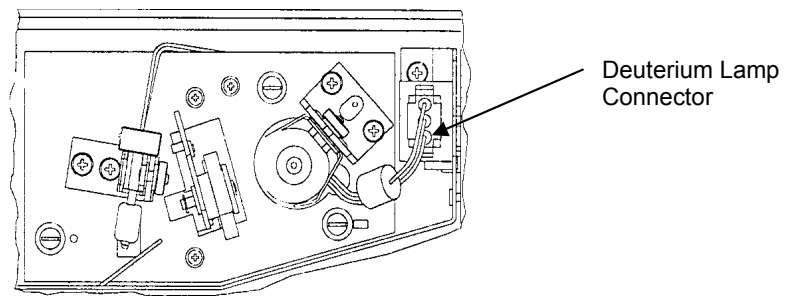

Figure 20 Deuterium lamp
4. Disconnect the deuterium lamp, as shown in Figure 20.